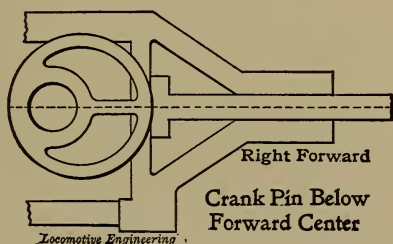

FIG. 54.
slipped one in the same relative position towards the pin. Or if engine is moved till the spoke of the good eccentric for that motion is on the exact center the slipped one (for the same motion) should be moved to the exact quarter; the right-hand one should always lead just a quarter of a turn ahead of the left one for the same motion. For instance, if the spoke or bridge of eccentric-cam that has not slipped points the same way as the center line of frame, the other one for same motion (on opposite side) should point the same way as edge of shoe between driving-box and jaw of frame. [See Figs. 54 and 55.] Or if engine can
A.—They are at right angles with each other. The right-hand one leads or passes the forward center when the left-hand one is on the top quarter. [See Figs. 54 and 55.]